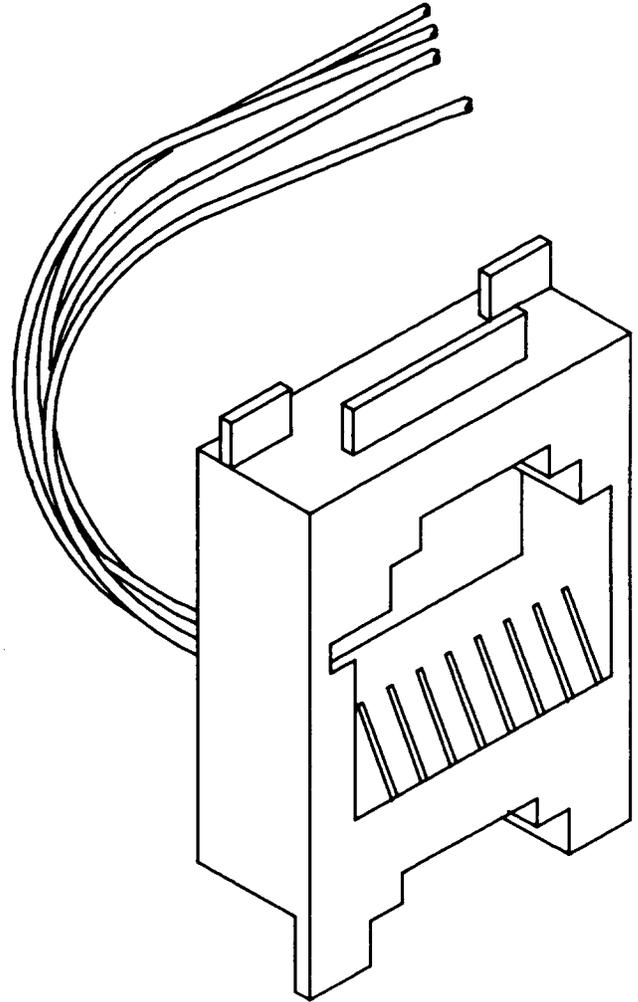

Fig. 14—647B or B4 Jack
2.14 647B and B4: The 647B and B4 jacks (Fig. 14) each have an 8-conductor spring block assembly used with modular data sets. The jacks contain a slot to permit entry of the keyed plug which is used exclusively by the registered data sets. These jacks will accept the D8W plug or the 4- by 6-modular plug.